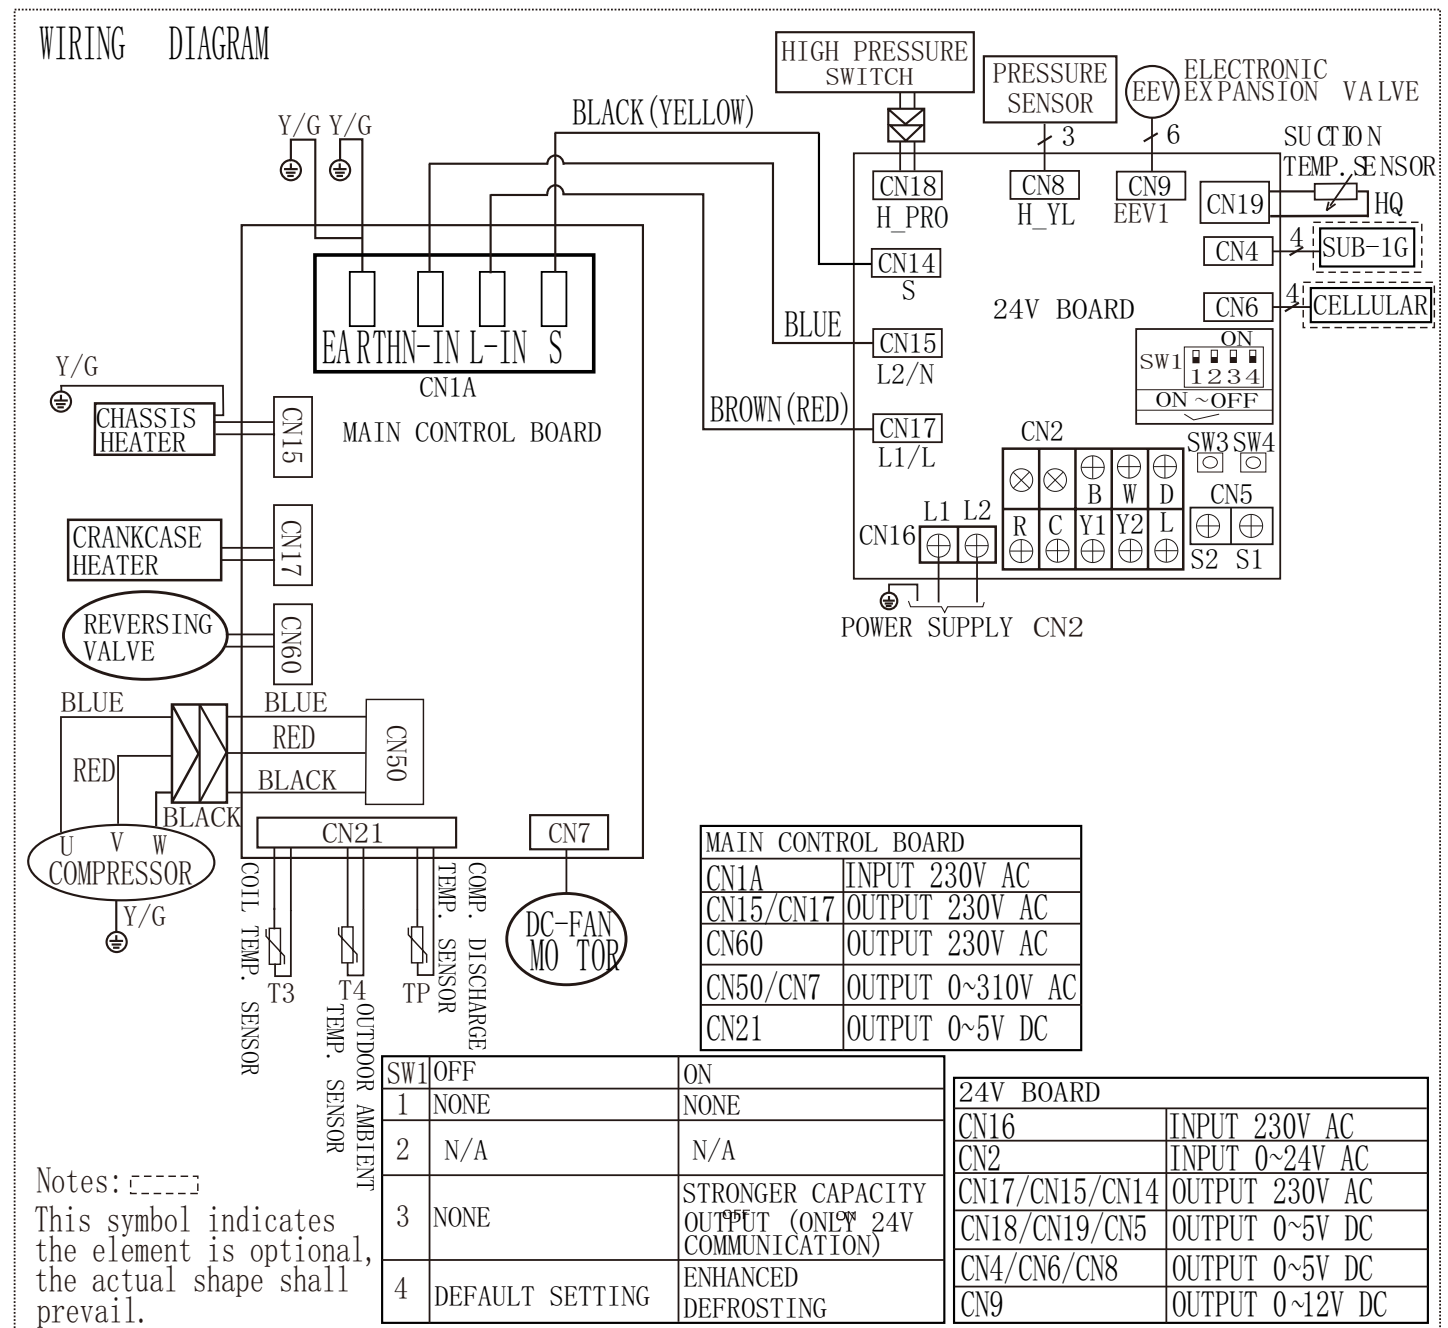

Fig. 24 — Size 18K
1. Completely tighten flare nuts A, B, C, D. Connect the manifold gage charge hose to a charge port of the low side service valve (see Fig. 24).